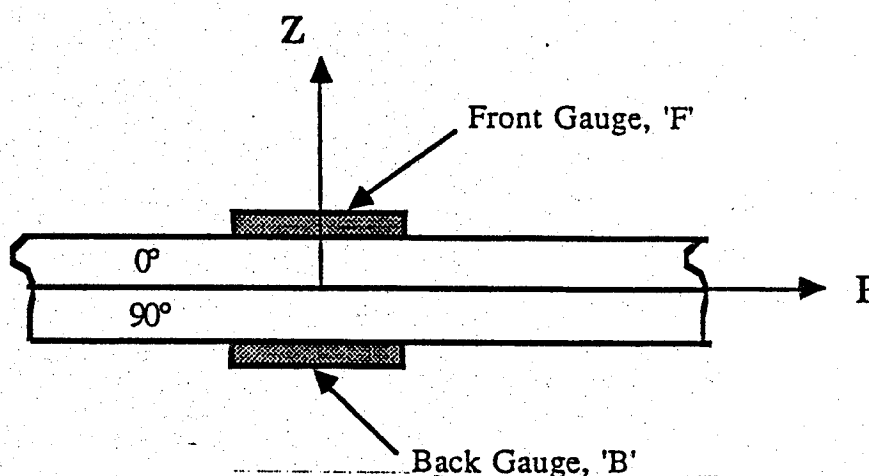

Figure 1(a)
- 1(b) Show that the in-plane shear modulus, G_{12} can be determined from data recorded from the 45° tensile test, Figure 1(b).